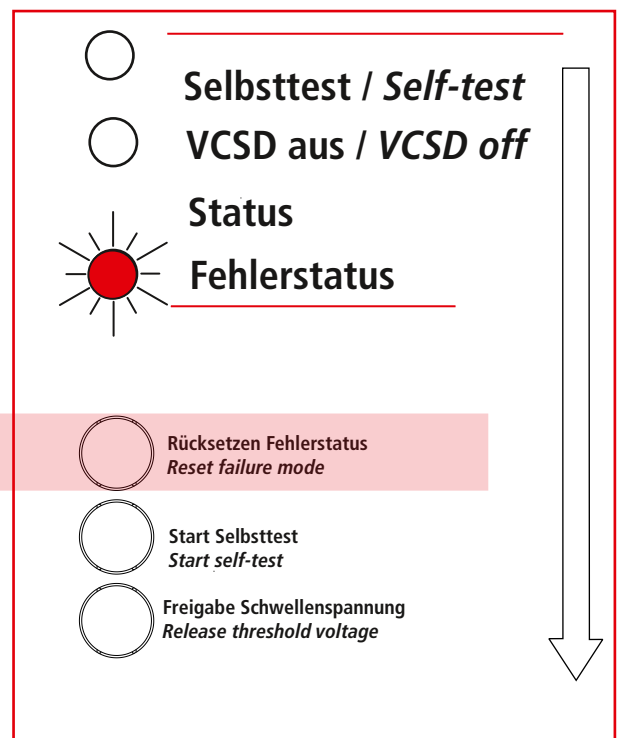

Fig. 4.3.2b
- After analysing (see Table 1, page 23) and eliminating the fault, if any, the failure mode can be reset by pressing the **"Reset failure mode"** button (see Fig. 4.3.2b).